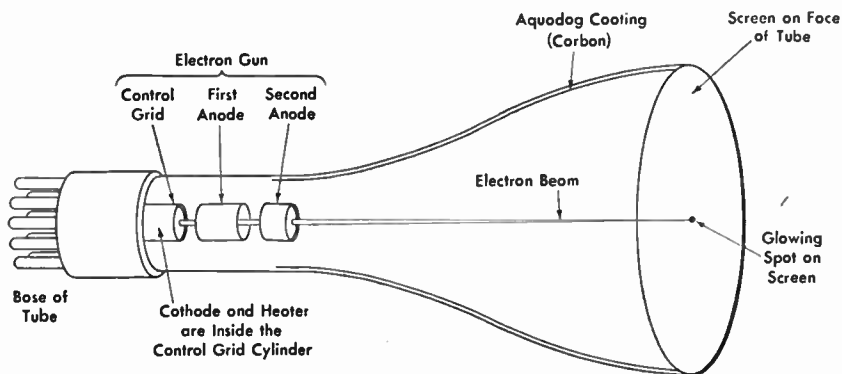

Fig. 22. Arrangement of electrades in cathode-ray tube
**Television Picture Tubes.** In ordinary radio tubes the electrons that are emitted from the cathode move outward in all directions to the surrounding cylindrical metal plate or anode. In a cathode-ray tube, however, the emitted electrons are concentrated in a pencil-like beam that is normally aimed at the center of a fluorescent screen on the inside of the tube face, as indicated in Fig. 22. This screen glows wherever the electron beam hits it.